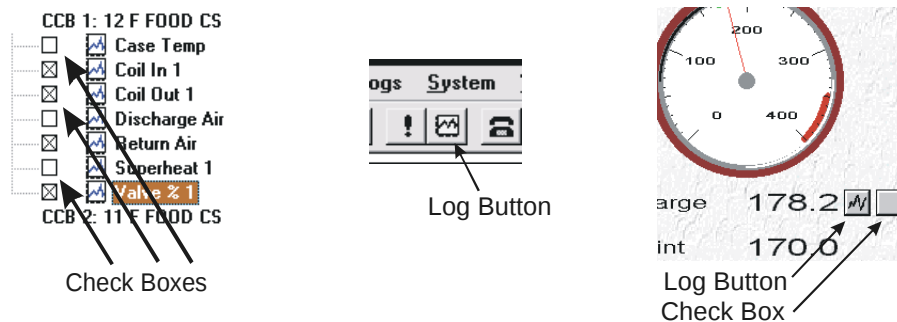

Figure 28 Log Check Boxes in Tree View, Log Icon in Command Line and Log Button on Animated Screen
If Collect is chosen, the tree view will list available logs to view. To view the logs, click in the Check Boxes the graphs you want to view and click on the Log Button in the command line (see *Figure 28*).
You can gather logs in the animated graphic screen (see *Figure 28*).
Box near the device, then click the Log Button in the command line at the top of the screen (see *Figure 28*).
4. Click on the Graph Icon in the command line (see *Figure 28*).
1. From the tree view expand the list until check boxes along with log graph icons are displayed (see *Figure 28*).